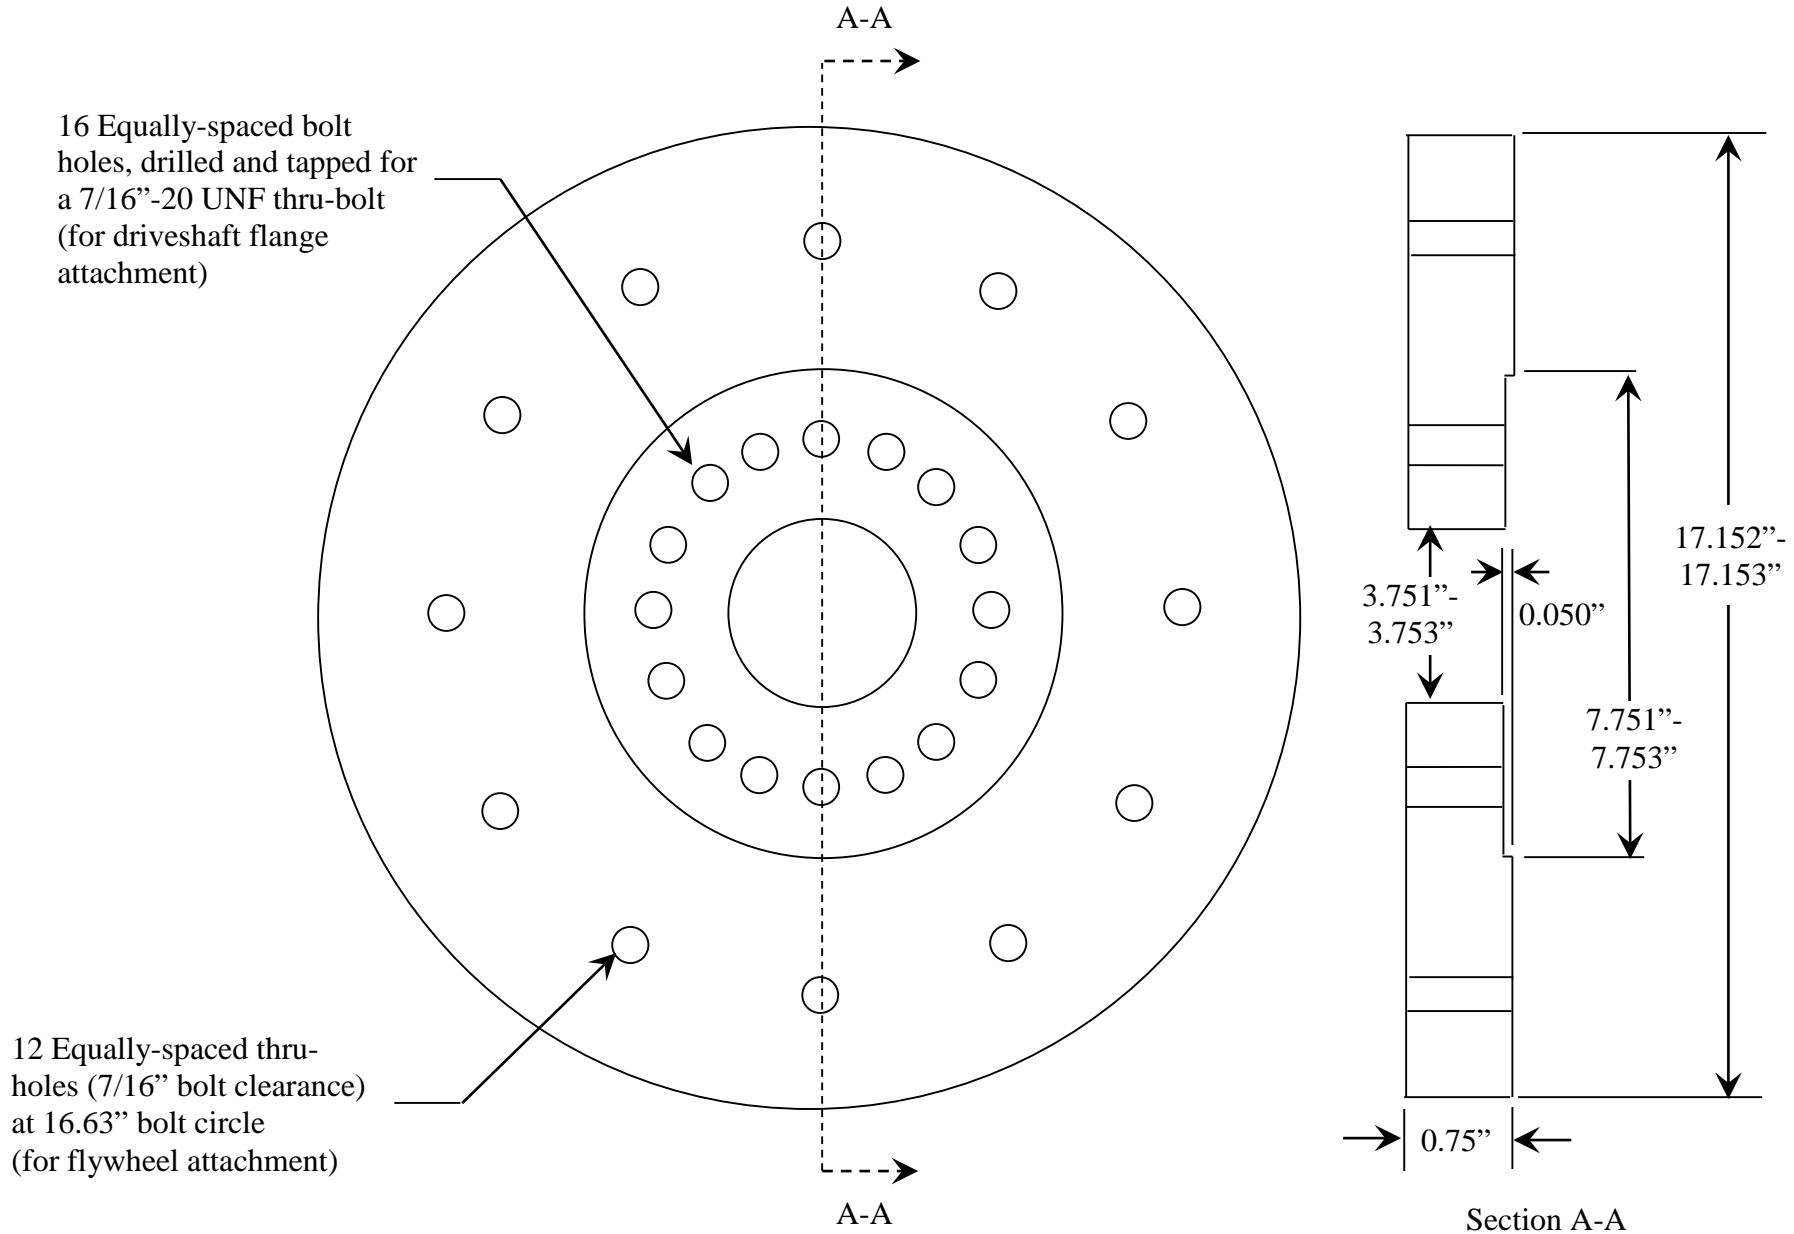

Figure 2
4. Engine must be supplied with an SAE Number 1, 2, or 3 standard SAE-type bell-housing as depicted in Figure 2 below.
- a. 0-5 Volt (DC) throttle signal input